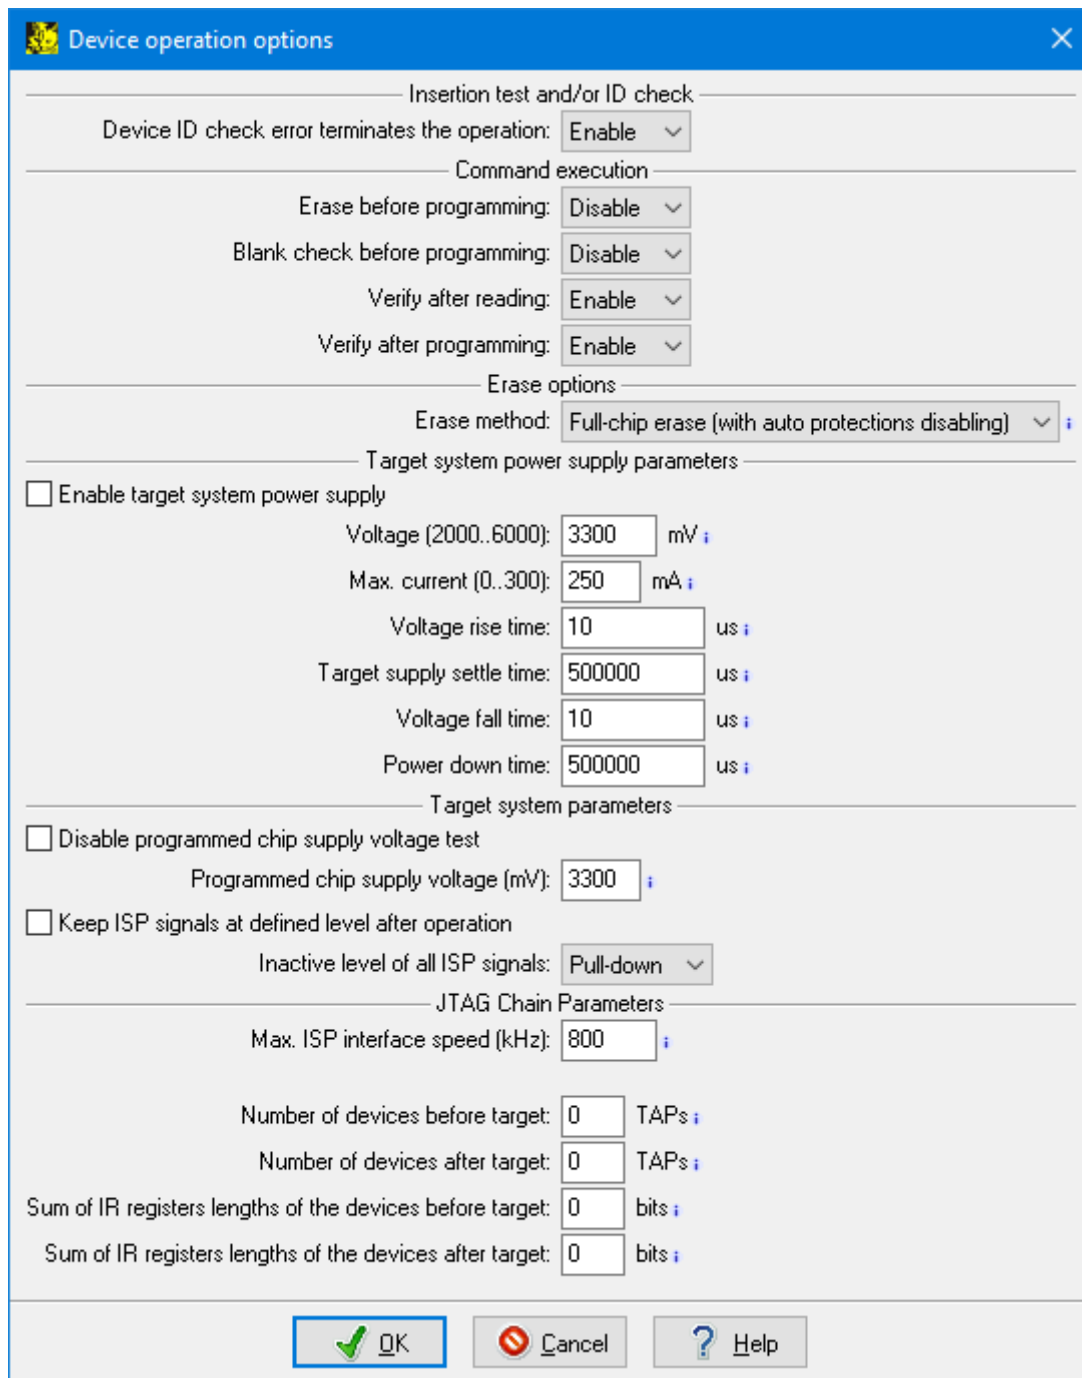

Figure 17: Device operation options for device supported in ISP-JTAG CHAIN mode.
3. Display Device operation options window, key shortcut <Alt+O> (see Figure 17). The window consists of several sections of the settings, that you probably are familiarized with from your previous experience with in-circuit programming using Elnec device programmers. The sections Insertion test, Command execution, Target system power supply parameters and Target system parameters are out of the scope of this application note. If you need more information about those, consult your programmer manual or Pg4uw Help.